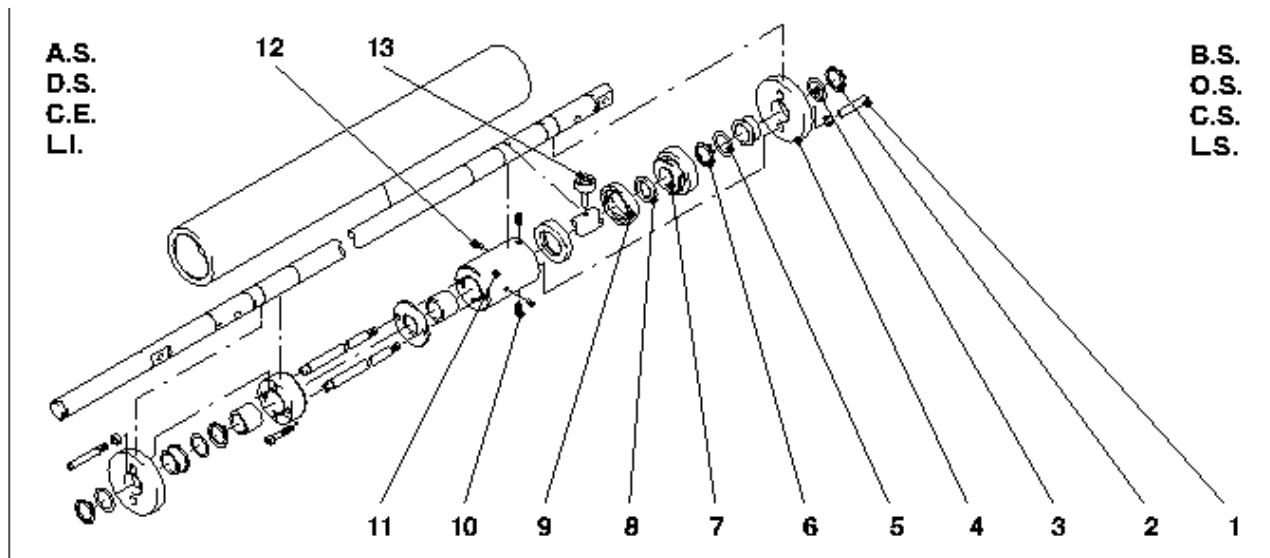
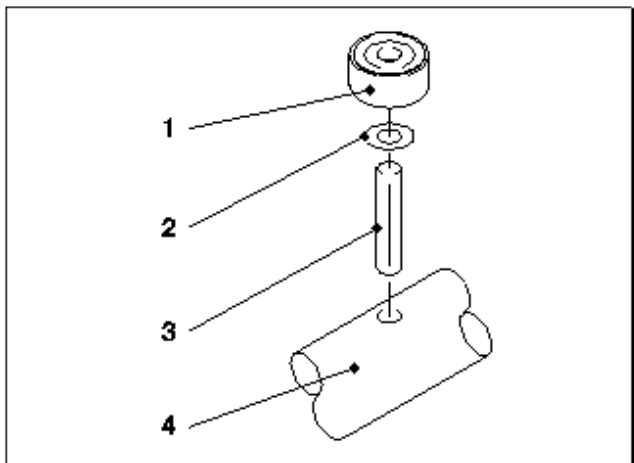

Fig. 12 Complete blanket washup device
Fig. 14 Distribution bearing
6. Remove circlip (Fig. 12 /2) and fitted disc (Fig. 12 /3) before the drive gear (Fig. 12 /4).
8. Remove circlip (Fig. 12 /6) and fitted disc (Fig. 12 /5) behind the drive gear.
9. Unscrew the grub screws (Fig. 12 /10) that clamp the bush (Fig. 12 /11).
10. Pull the bearing (Fig. 12 /7) at the straight pins (Fig. 12 /1) out of the bush.
Sink spring dowel sleeve (Fig. 12 /12) only on O.S. into the bush. The gasket (Fig. 12 /8) is damaged by the removal of the spring
11. Hold the bush and pull the shaft (Fig. 14 /4) in the direction O.S. until gasket, cam disc (Fig. 12 /9) and grooved ball bearing (Fig. 12 /13, 14 /1) become visible.
13. Remove spring dowel sleeve (Fig. 14 /3) so that grooved ball bearing and fitted disc (Fig. 14 /2) can be replaced.
When assembling the blanket washup device you must use the new gasket and the new spring dowel sleeve for the bush (Fig. 12 /11).